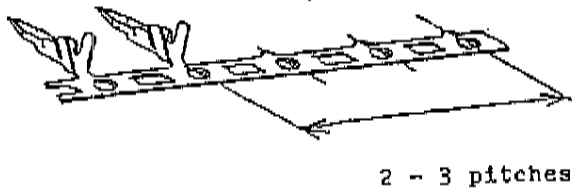

Fig. 2
(1) Cut strip terminals for your easy operation. (Or leave the terminal reel as it is, if you prefer.) Cut the first two or three terminals off the strip carrier per Fig. 2.
Insert the strip carrier of the chain terminals in between the ① terminal guide and ② guide plate. Insulation barrels should be positioned in the groove of the ② guide plate. Feed the chain terminals until the insulation barrel of the first terminal comes to the center of the crimping position, while holding the strip carrier by fingers, lightly pressing it forward notch by notch. Refer to Fig. 2 and
Position the upper die so that the tail of the guide screw is inserted in the guide groove of the upper die (on the insulation barrel side). <Refer to Fig. 2.> The die cannot be set when oppositely mounted.